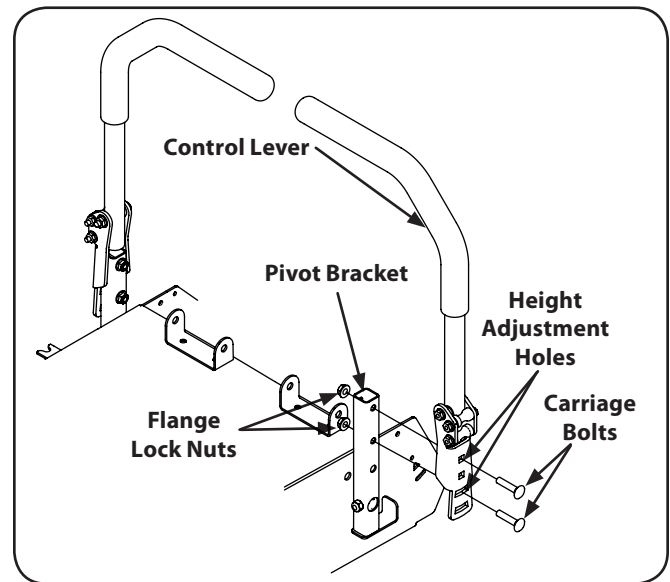

Figure 1-5
- Remove the nuts from the control lever mounting bolts. See Figure 1-5.